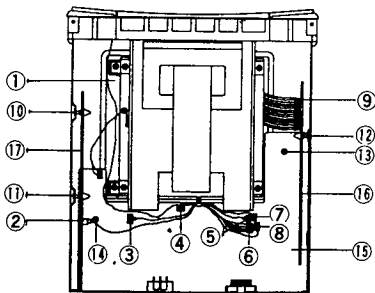

Fig. 3
2. Remove connectors ① to ⑨, and then remove pcb supports ⑩ to ⑫ in Fig. 3
3. Remove screws ⑬ to ⑰, and then remove the pcb-1 ⑬, pcb-2 ⑭ and pcb-3 ⑰